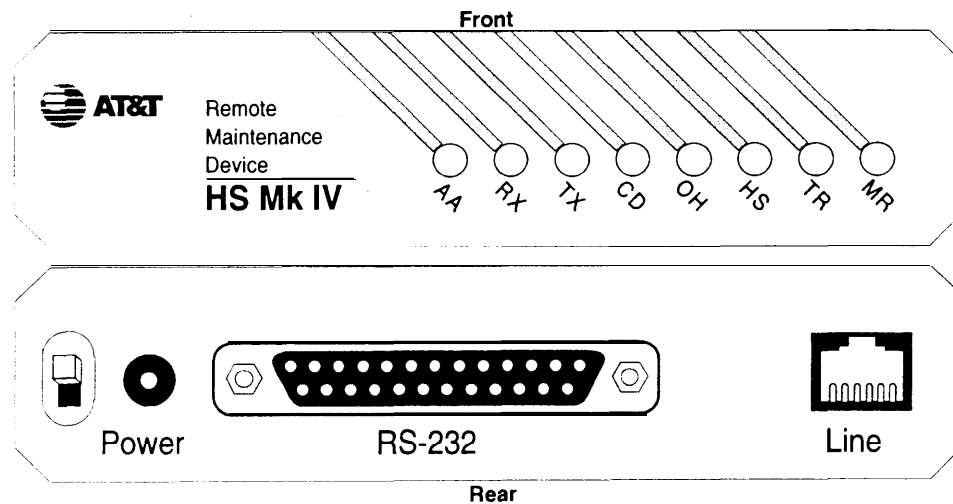
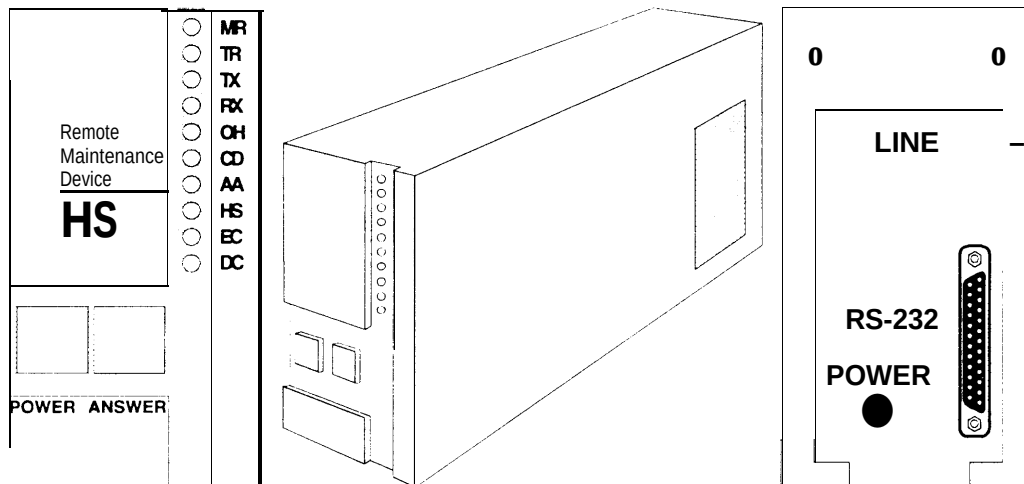
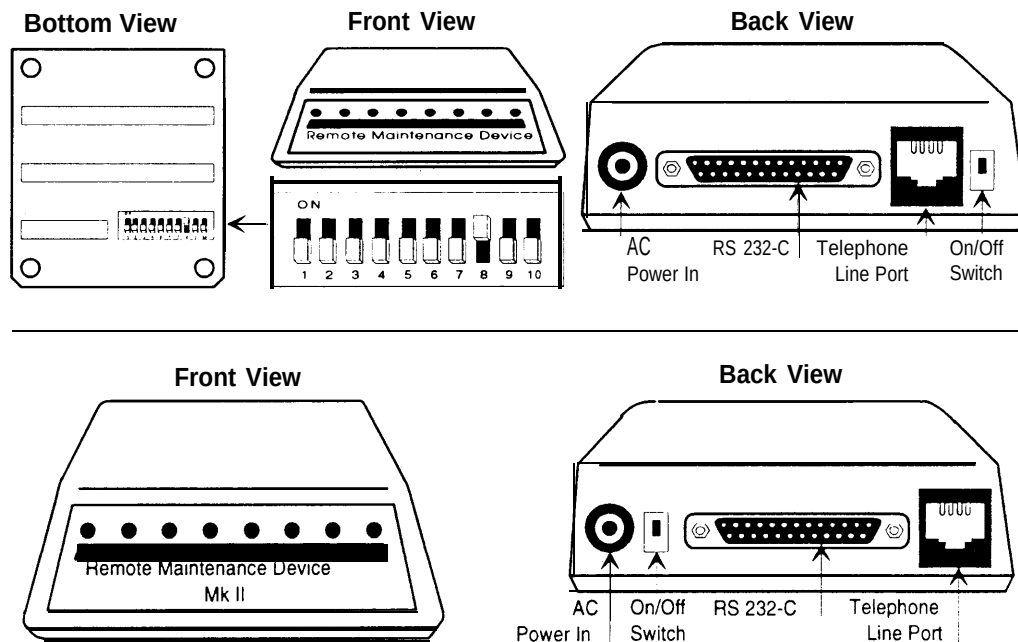

Figure 2-13. RMD-HS Mk IV Connector Locations
Figure 2-14. RMD-HS Connector Locations
Figure 2-15. RMD Connectors and Switches
The location of connectors, switches, and indicators on the two RMD-HS models are shown in Figure 2-13 and Figure 2-14 and those on the two RMD models are shown in Figure 2-15. Connect the system unit to the remote access port by following these steps:
5. If you have the RMD with switches on the bottom, set the switches as shown in Figure 2-15. The RMD Mk II and both types of RMD-HS do not have switches.